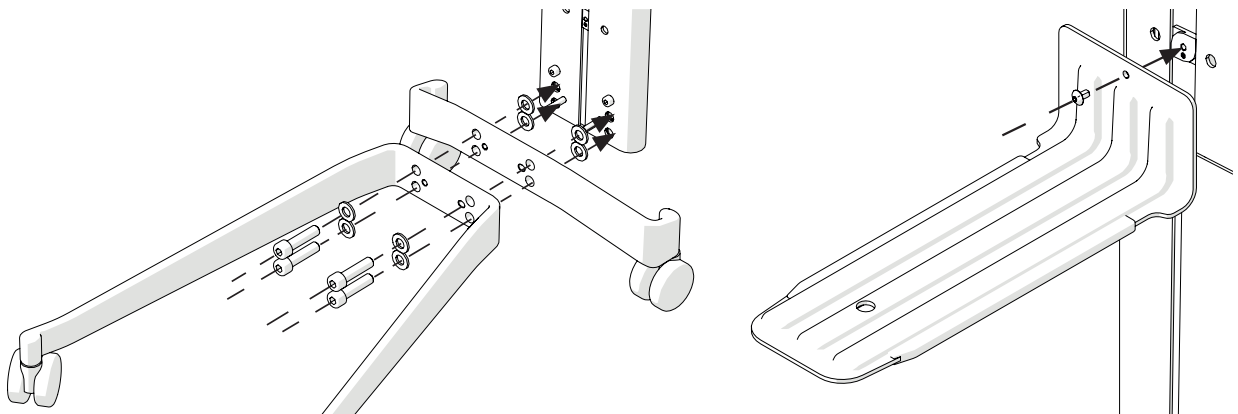

Fig. 3 Assembly steps
5. Align the long foot (no. 2) with the short edge of the short foot (see fig. 3).